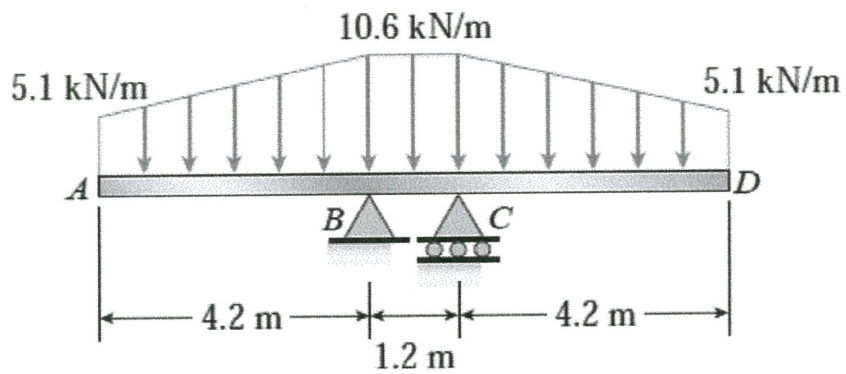

Figure Q4
- Q4.** The beam ABCD as illustrated in **Figure Q4** has overhangs that extend in both directions for a distance of 4.2 m from the supports at B and C, which are 1.2 m apart.